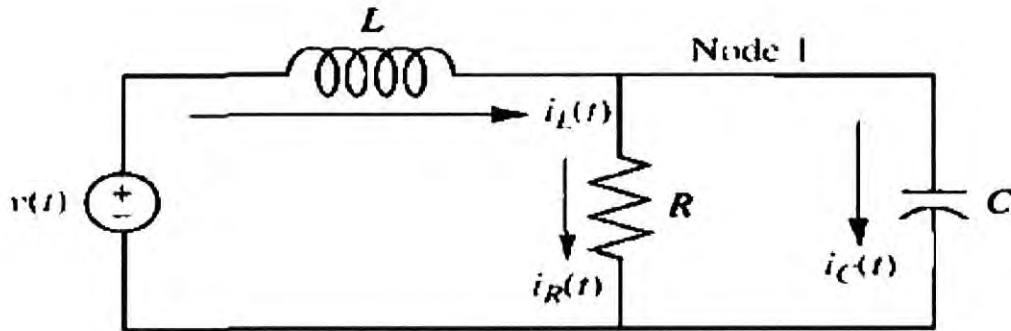

Figure 3
- a) Find the state-space representation for the electrical network system shown in Figure 3, if output is the current through the resistor. **(7 marks)**